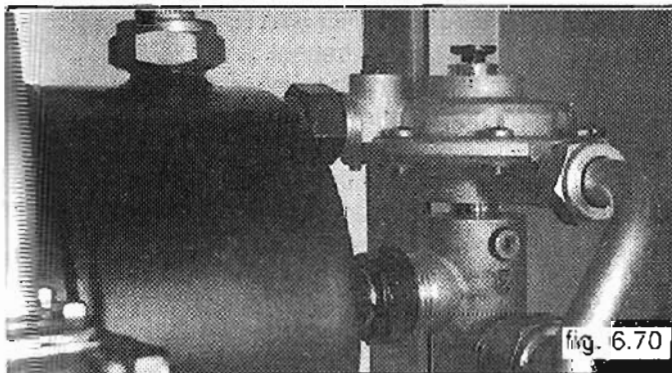

fig. 6.70
- 5 Release all the nuts as shown in figures 6.70 & 6.71 , using No.24 and 36 Open ended spanners;